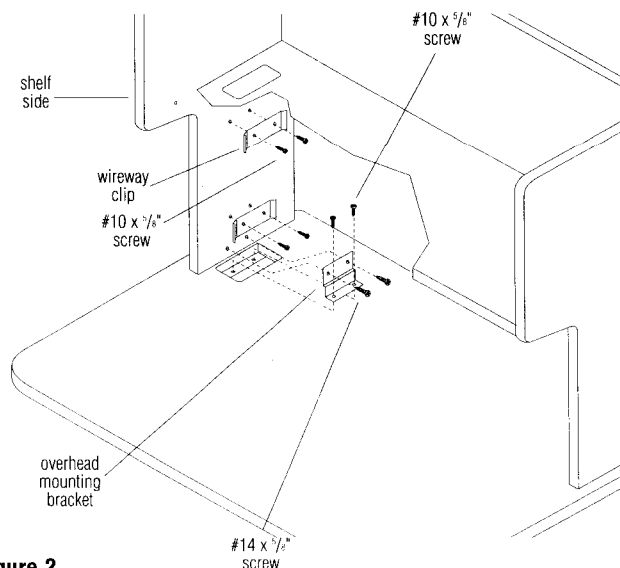

Figure 2
of the worksurface legs. Tighten screws to secure (Figure 2).
9. Attach two wireway clips to pre-drilled holes in each shelf side with two #10 x 3/8" screws per clip (Figure 2).